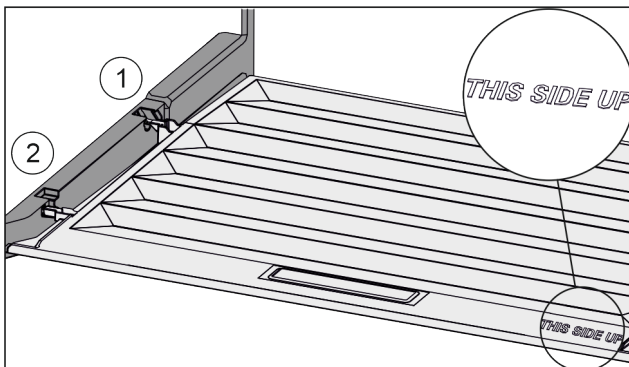

Fig. 95
- ▶ Insert the lip of the cover over the opening of the rear bracket *Fig. 95 (1)* and click into place *Fig. 95 (2)*.